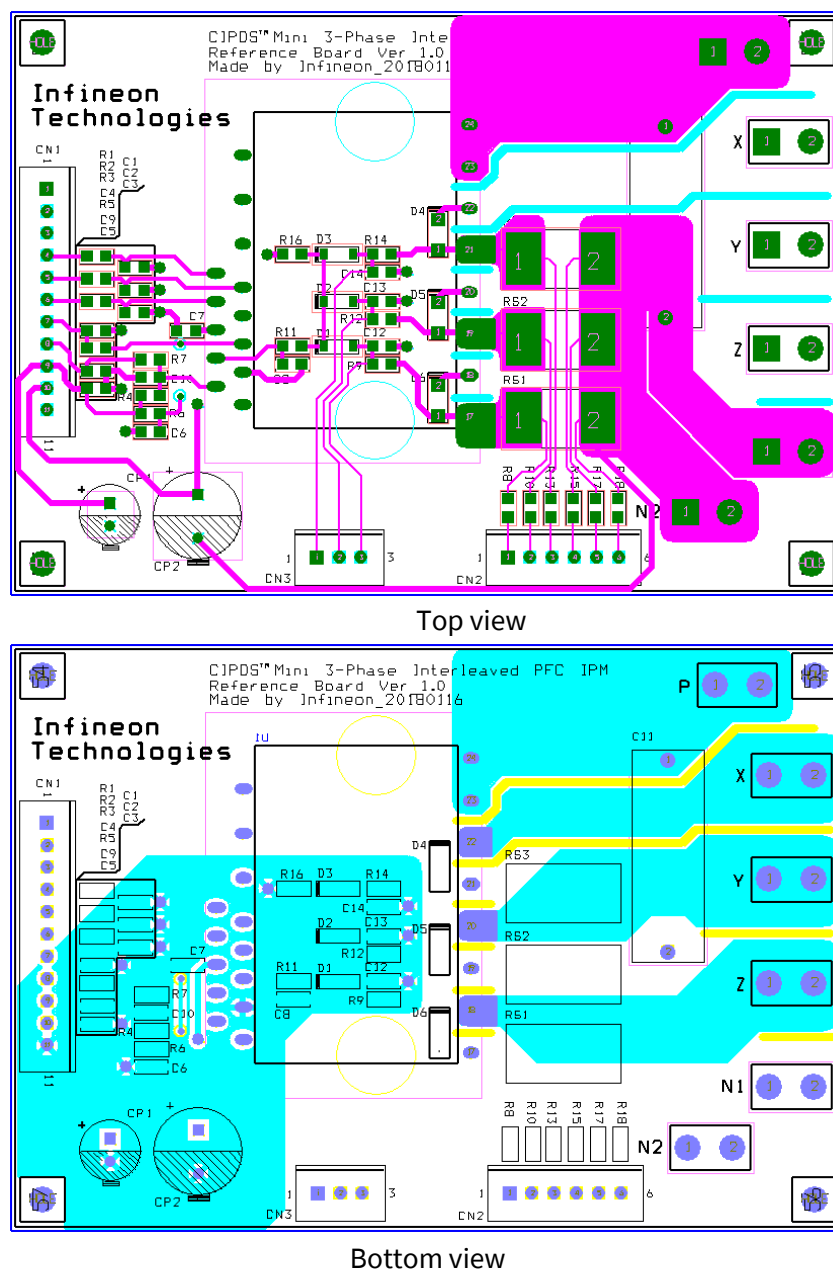

Figure 8 Layout of reference board for 3-shunt resistors
5. *In order to accurately detect the voltage of the current sensing resistor, both sensing and ground patterns should be connected at the pins of the current sensing resistor and should not be overlapped with any patterns for the load current, as shown in Figure 8.*